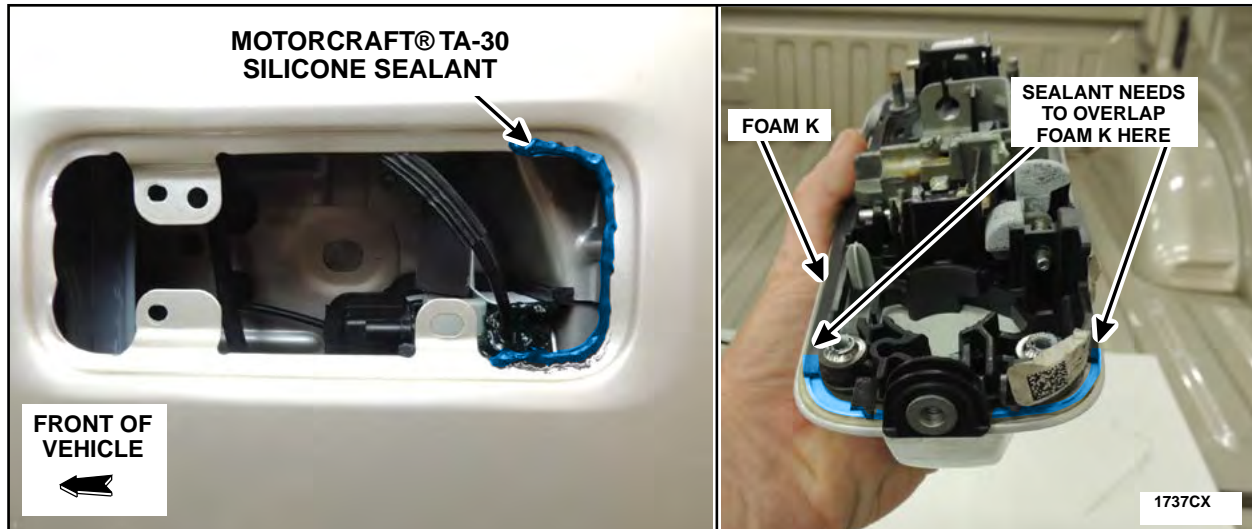

FIGURE 96
23. Apply a bead of Motorcraft® TA-30 silicone sealant to the rear vertical area of the rear door metal surface making sure that the sealant will overlap with the Foam K on the exterior door handle. See Figure 96.